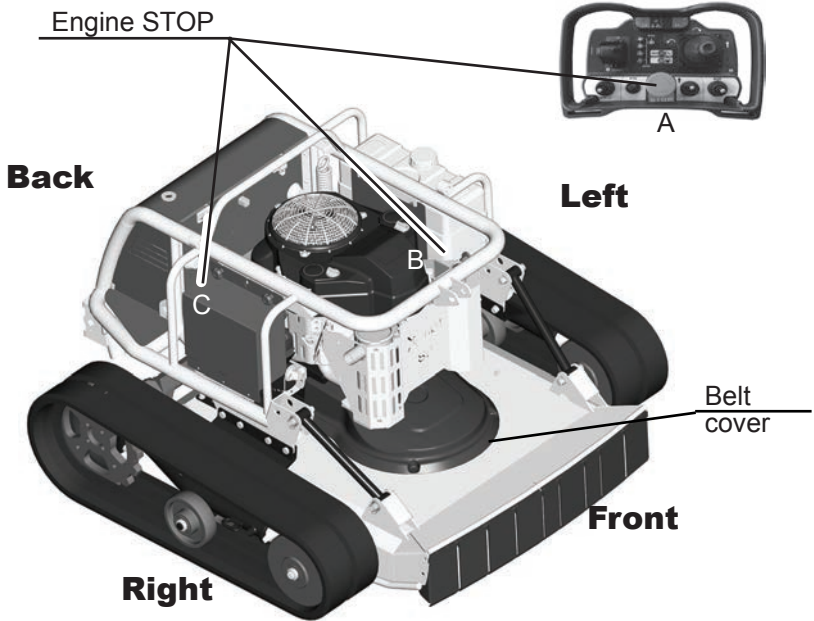

Fig 5
The terms “FRONT” - “REAR” - “RIGHT” - “LEFT” used in this handbook and in the spare parts catalogue, are referred to the machine as shown in Fig. 5
- 1- engine STOP device (B) (fig.5)
- 2- engine STOP on the remote control (A) (fig.5).
- 3- engine STOP on starting key (C) (fig 5)